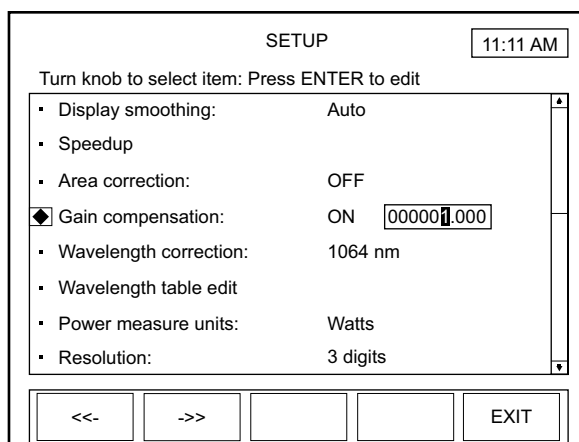

Figure 4-43. SETUP: Gain Compensation
3. Turn the Selection knob and display ON in the Gain Compensation field and then press the ENTER/SET button to move the highlight to the Gain Compensation value field (shown as 000001.000 in Figure 4-43).